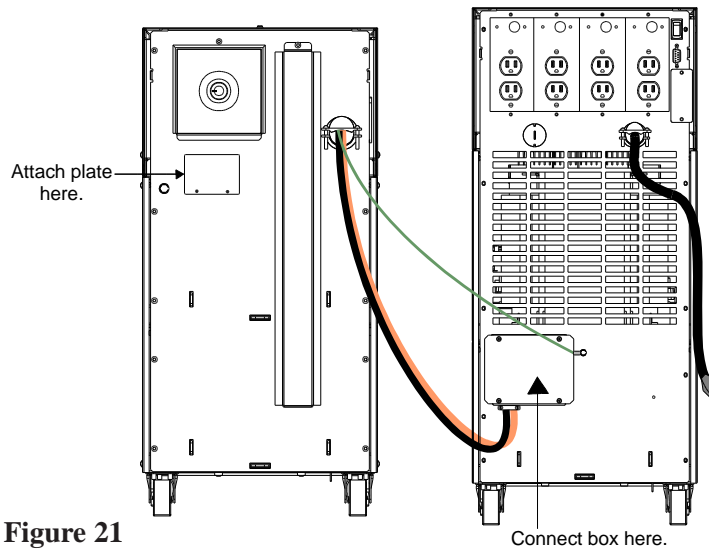
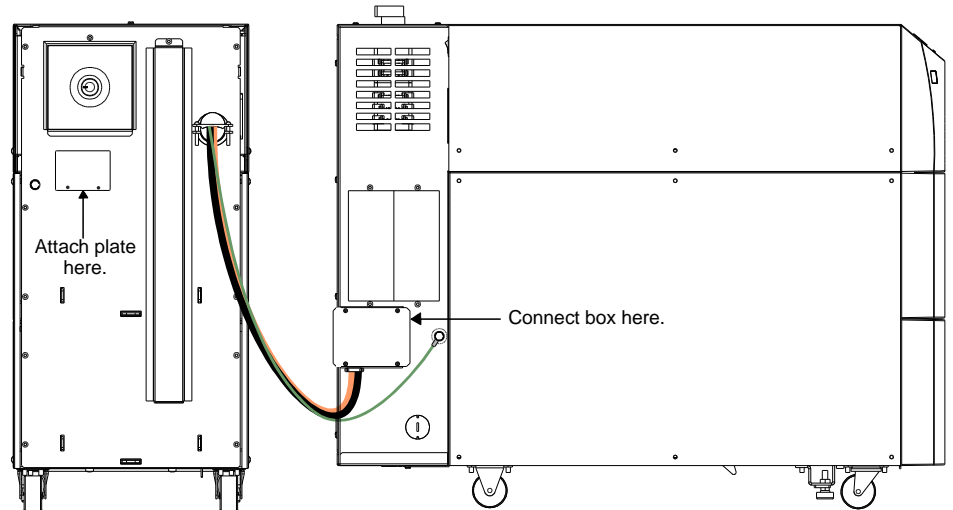

Figure 21
Figure 22
7. Insert the DC box into the back of the UPS as shown in Figure 21, if your UPS has a bypass switch attached, see Figure 22.
8. *If your UPS has only one battery cabinet*, attach the metal plate (removed from the UPS) to the back of the battery cabinet as shown in Figure 21 or 22. Use the two screws you removed from the UPS in step 5. You are now finished connecting the cables. Skip the steps below and go to Section 405.